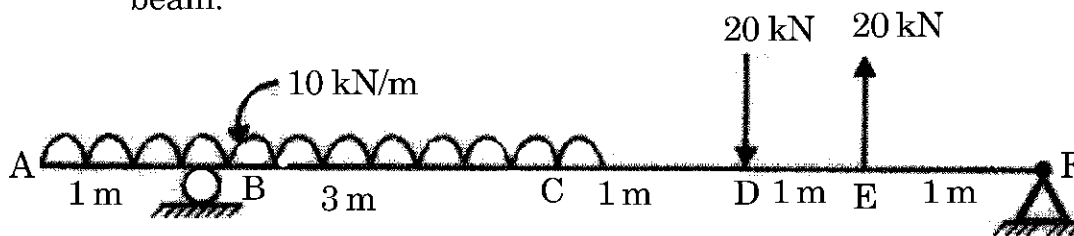

Fig. 3
- (b) A beam ABCDEF, 7 m long is supported at point B and F as shown in Fig. 3. Beam carries UDL and concentrated load as shown. Determine slope and deflection at end A of the beam. [8]